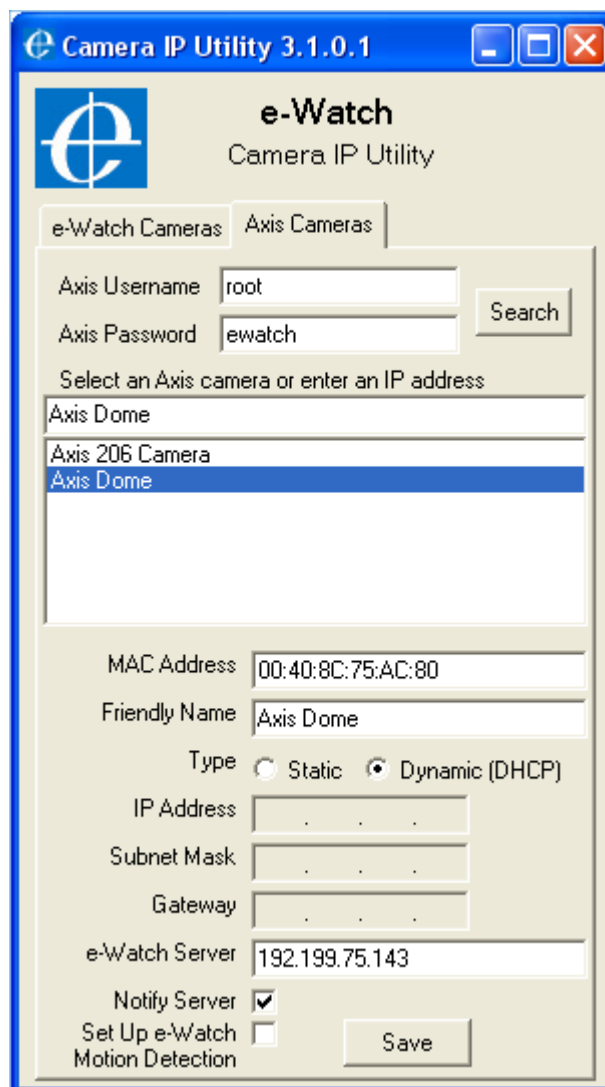

Figure 4-4. Connecting Axis Camera Using e-Watch Camera IP Utility
You can use the e-Watch Camera IP utility to connect Axis cameras if the operating system on the e-Watch Service does not support SSDP (e.g. Microsoft Windows Server 2003). See Figure 4-4.
- Figure 4-4. Connecting Axis Camera Using e-Watch Camera IP Utility 11